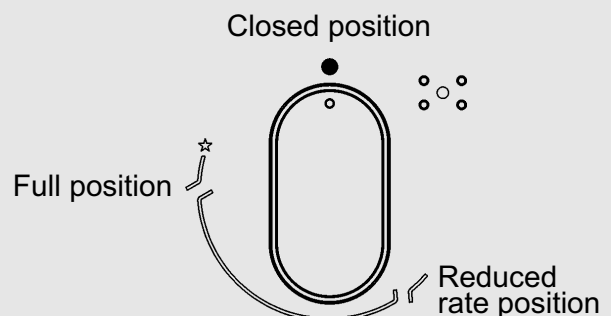

FIG. 22
Push and turn the knob corresponding to the required burner in an anticlockwise direction until it reaches the full on position (large flame fig. 22), then depress the knob.
The knobs of burners equipped with flame failure device must be turned in an anticlockwise direction until they reach the full on position (large flame fig. 22) and come to a stop. Now depress the knob in question and repeat the previously indicated operations.
- When the pan comes to the boil, set the knob to the reduced rate position (small flame fig. 22).
- **burners with flame failure device may only be ignited when the relative knob has been set to the Full on position (fig. 22).**
- Switch on the burner and turn the relative knob to the “Reduced rate” position (small flame fig. 22).